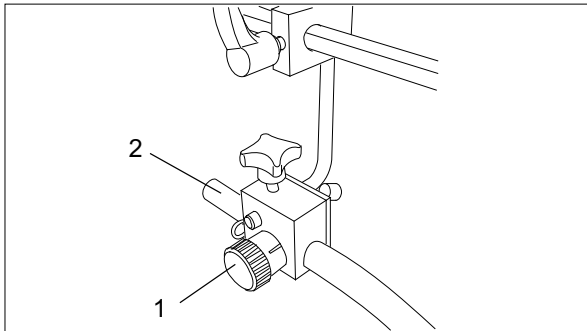

Fig. 36 Side blowers
2. Adjust the intensity of the air stream by means of the valve (Fig. 36/1). The valve can be closed completely by turning it clockwise.
3. Turn the air nozzles (Fig. 36/2) so that the topmost 10 to 15 sheets are aerated thoroughly.